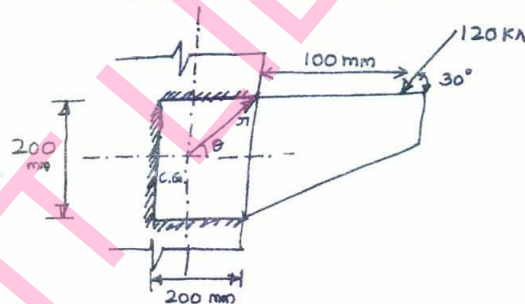

Fig.Q3
3. A bracket plate is used to transfer the reaction of beam to a column flange of ISHB 300@618 N/m. A fillet weld of 6 mm is used to connect the plate and column flange as shown in Fig.Q3. Find whether the connection is safe or not. (20 Marks)